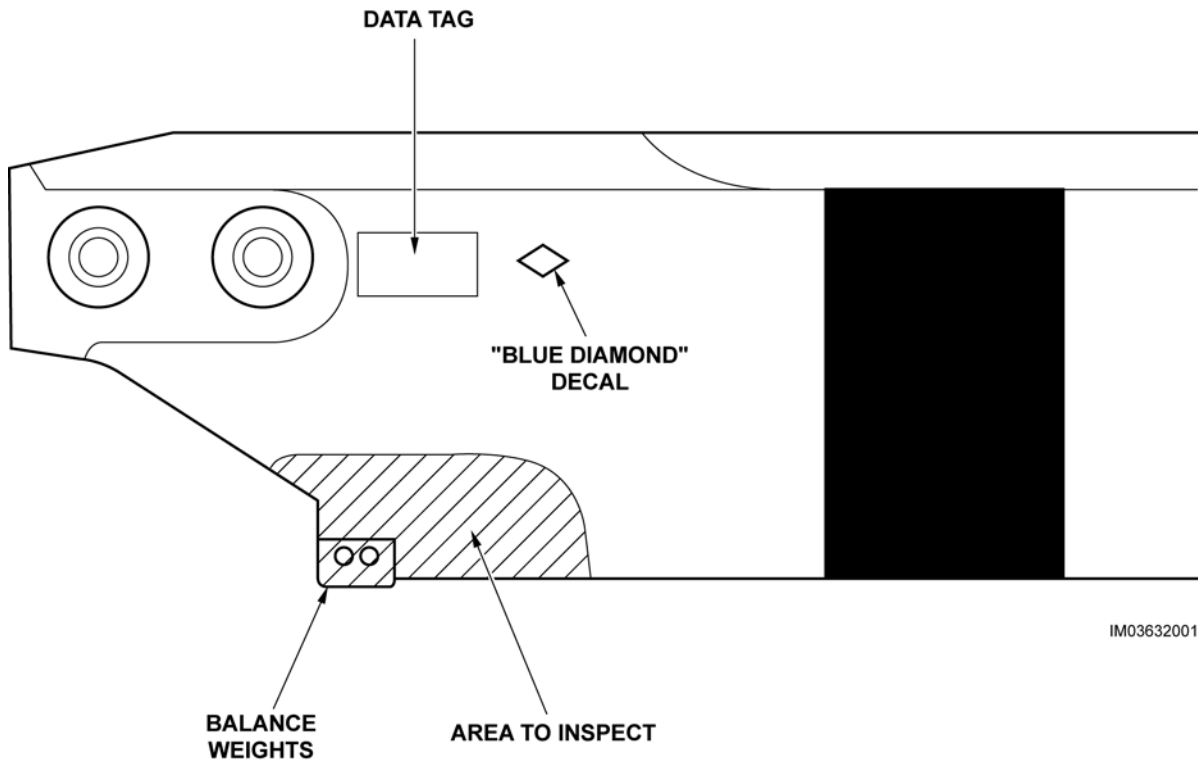

Figure 1. Tail rotor blade inspection.
1. Use detergent (C-318) and thoroughly clean the area to be checked on both sides of the blade. Refer to Figure 1.
2. Check both sides of the blade at the area indicated on the Figure 1 as follows:
1. Use detergent (C-318) and thoroughly clean the area to be inspected on both sides of the blade. Refer to Figure 1.
2. Inspect both sides of the blade at the area indicated on the Figure 1 as follows:
4. In order to provide a quick visual reference and identify the blades affected by this ASB, apply the "blue diamond" decal provided with this ASB on both sides of the blade at the location indicated on the Figure 1. To prolong the life of the decal, apply Edge sealer on the decal. Replace missing or damaged decal as required.